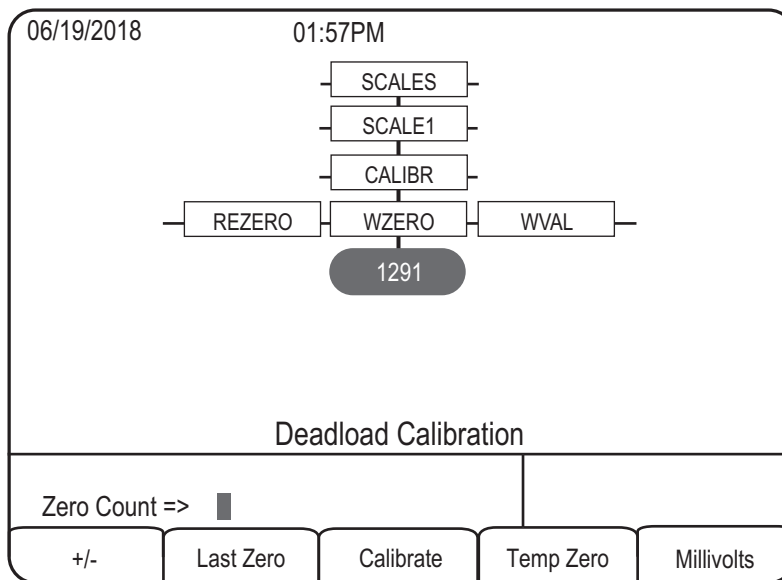

Figure 5-7. WZERO Calibration Display
5. Press  to go to zero calibration (**WZERO**). See Figure 5-7.